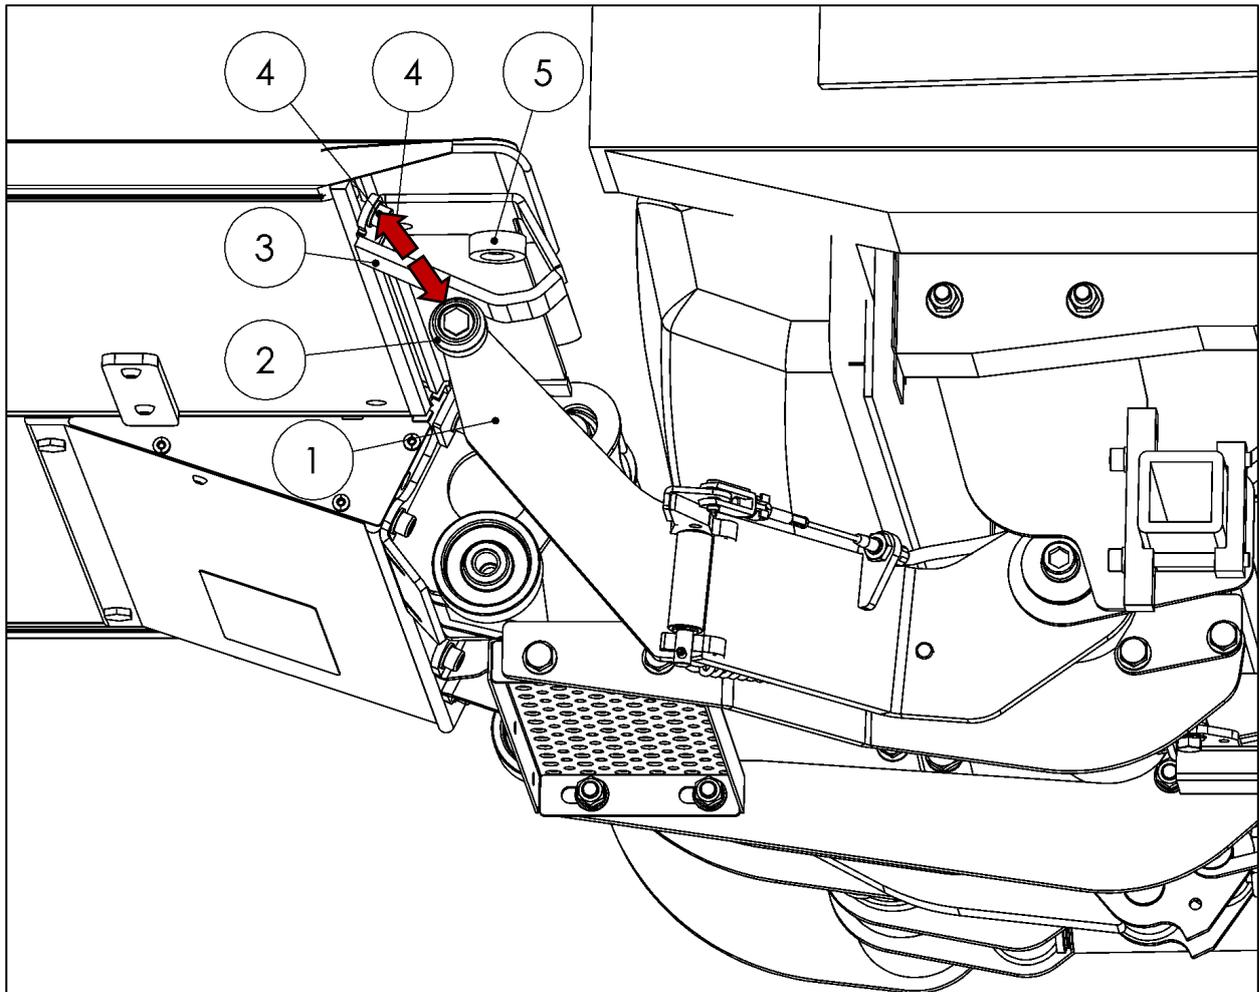

Figure 77
**IMPORTANT:** The roller (1) on the support arm (2) must remain against the stop (3) throughout the entire lifting process. If necessary, loosen the stop (3) and shift it slightly by loosening 2 cheese-head screws (4). At the same time, the stop (3) must not be shifted too far. When the platform is folded over, the plastic spacer (5) must hold the platform in place (see Fig. 77).